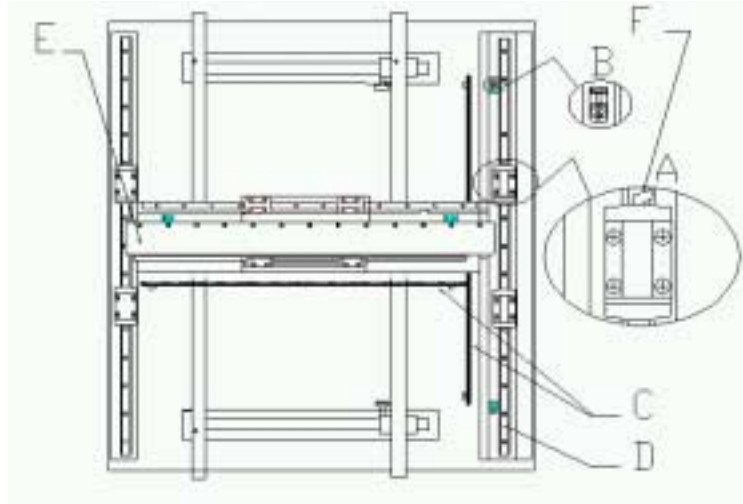

Figure 3.2 Gantry Schematic
4. Ensure the bearings are kept free from dust, loose particles and moisture; see Figure 3.2 (D).
5. Ensure the magnetic platens are free from debris; see Figure 3.2 (E).
7. Visually examine the encoder, see Figure 3.2 (C), on each axis to ensure that there are no scratches, grease or dirt. If some grease or dirt needs to be removed, do this with a very fine lint free cloth only.
8. Check the small home marker contacts and end limits are intact; refer to Figure 3.2 (C) and (B). Ensure that they are free from dirt and grease.
6. Remove any dirty or dried lubricant from the bearing guides; refer to Figure 3.2 (D). Use a clean cloth wipe along the rails to clean the bearing guides. A cotton swab soaked in solvent will suffice to remove stubborn debris.
8. Lubricate the four **LMG Bearing Trucks** on each stage, Figure 3.2 (A). (See Important notes on lubrication). Use a grease gun with a grease nipple (type **UU** or **SS**); refer to Figure 3.2 (F).